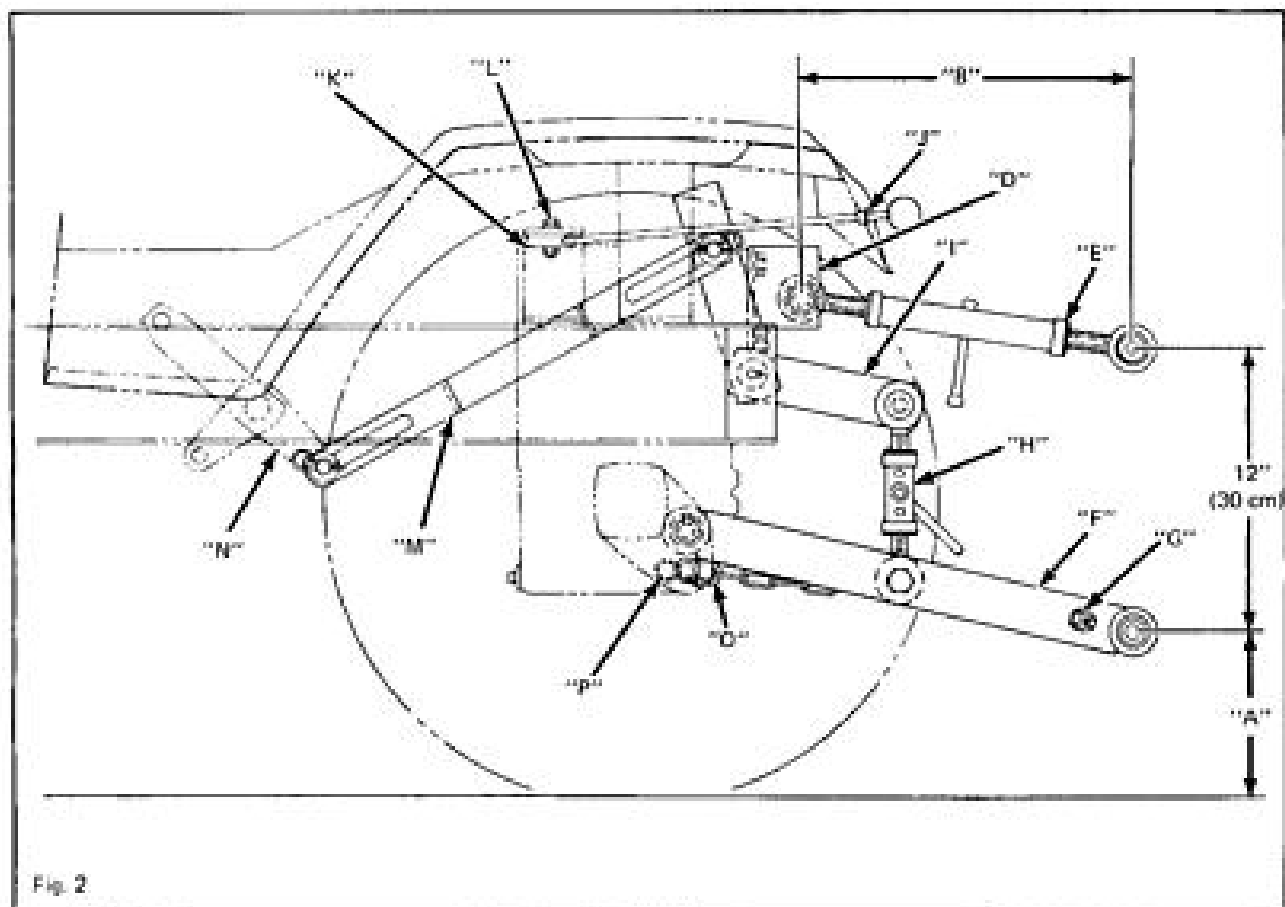

Fig. 2
1. Attach ring end of chain assembly (G) Figure 2 to the lower holes of the implement hitch with clevis pin 3/4 x 2 3/4 and heavy spring cotter (P) No. 0135035.
2. Secure eyebolt of chain assembly to the angular hole (G) in the lower links with pivot No. 1715525, flat washer 5/16 and hex lock nut 5/16-18.
SEE FIGURE 2 AND CHART FOR ADJUSTMENTS.